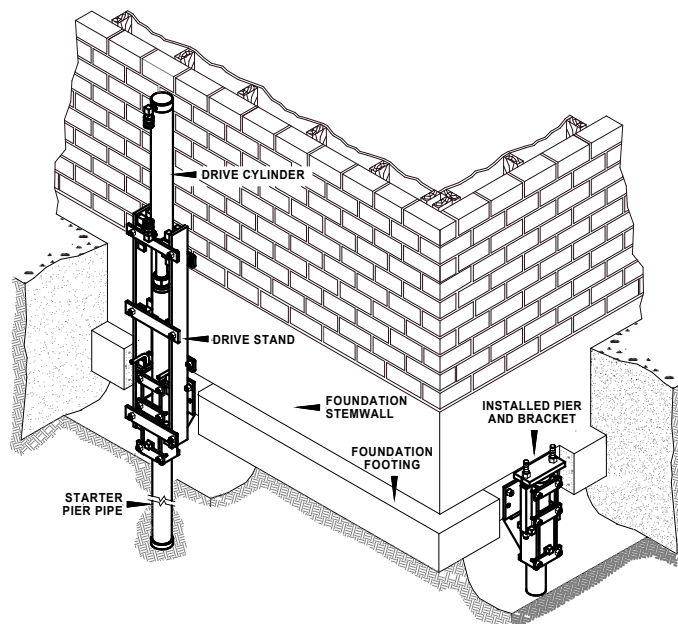

Figure 2. Typical Steel Pier™ Installation with Utility Bracket.
The following nine steps illustrate the typical installation procedure for the PPB-300, PPB-350 or PPB-400 Utility Bracket. Figure 2 shows a structure with a spread footing. The detail on the left side of Figure 2 illustrates the configuration used when installing the resistance pier system and driving the pier pipe. On the right side of Figure 2 is the configuration of the installed pier system following the transfer of the structural load to the pier. Please contact ECP engineering department for *ECP Typical Specifications* that provide the specific and detailed product installation requirements and procedures.
4. **Utility Bracket Attachment:** The utility bracket is secured to the footing using two anchor bolts. Then the drive stand and the hydraulic cylinder are mounted to the bracket. (Shown on left side of Figure 2.)